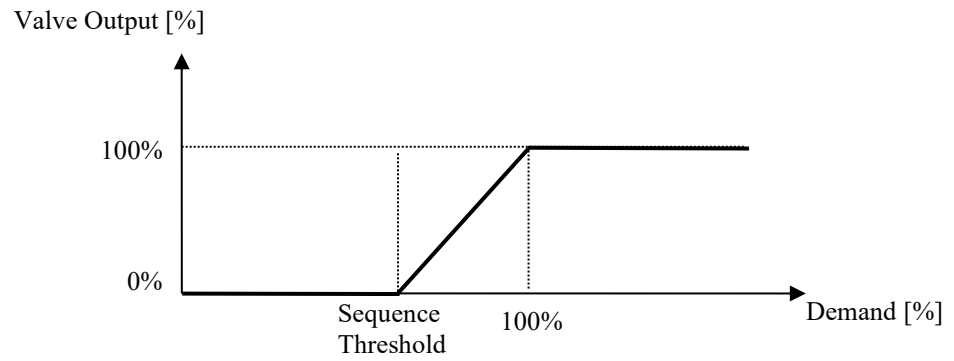

Figure 26: Scaling after sequence threshold
- After Threshold (1): Scaling after the sequence threshold, see Figure 26